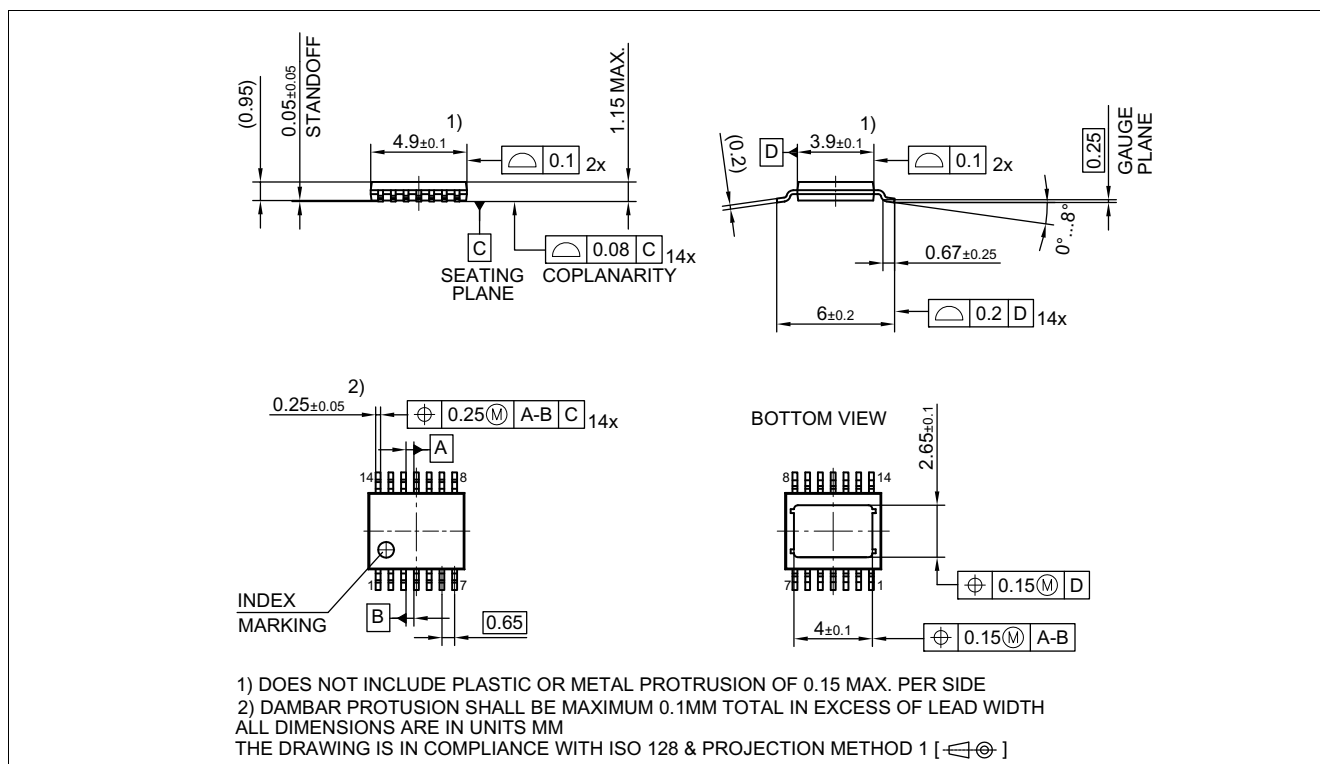
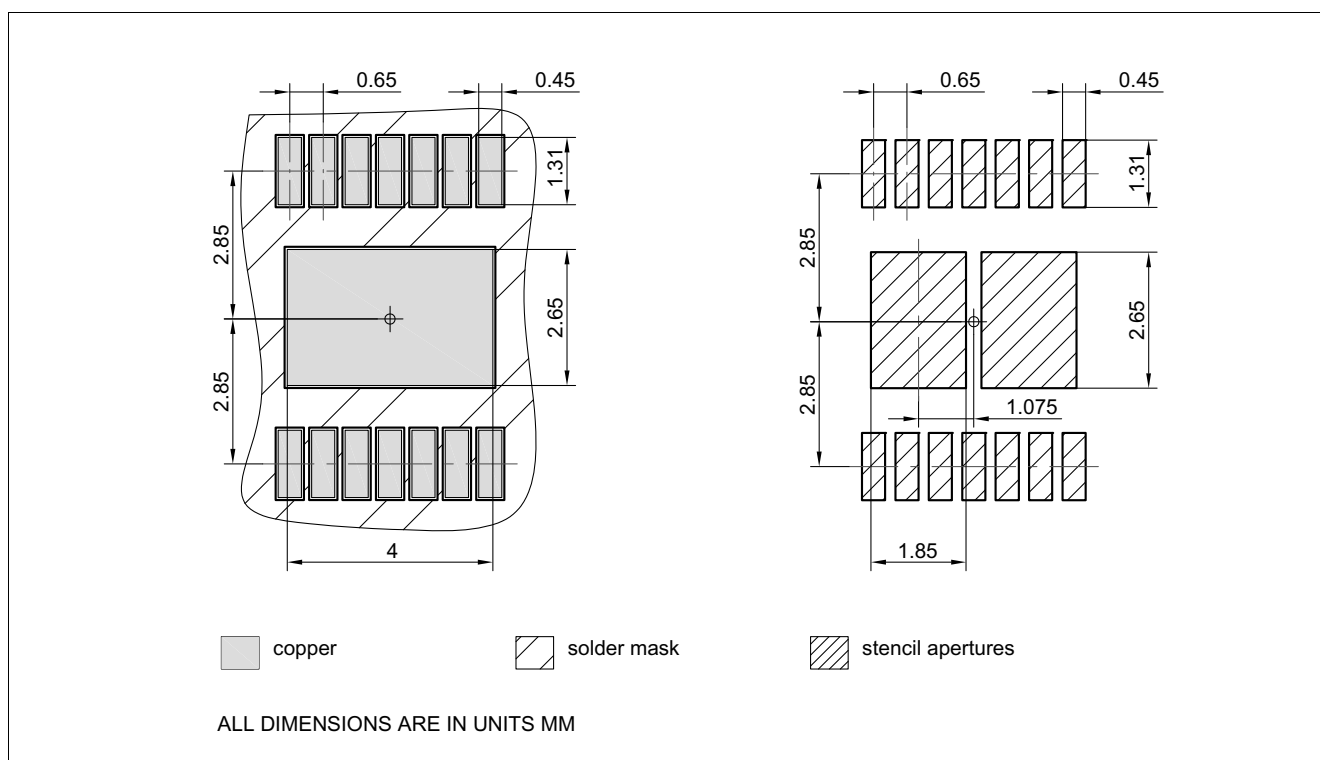

Figure 44 PG-TSDSO-14 (Thin (Slim) Dual Small Outline 14 pins) Package Outline
Figure 45 PG-TSDSO-14 (Thin (Slim) Dual Small Outline 14 pins) Package pads and stencil
1.03 , 2018-10-18	Chapter 9.3.1 updated (typo) Page 1: updated (Package PG-TSDSO-14-22 → Package PG-TSDSO-14) Figure 29 updated Figure 44 updated (PG-TSDSO-14-22 (Thin (Slim) Dual Small Outline 14 pins) Package Outline → PG-TSDSO-14 (Thin (Slim) Dual Small Outline 14 pins) Package Outline) Figure 45 updated (PG-TSDSO-14-22 (Thin (Slim) Dual Small Outline 14 pins) Package pads and stencil → PG-TSDSO-14 (Thin (Slim) Dual Small Outline 14 pins) Package pads and stencil) Table 1 updated ((Symbol: $I_{VS(SLEEP)}$ → $I_{VS(SLEEP)_{85}}$), (Parameter: Minimum Overvoltage protection ($T_J = 25\text{ °C}$) → Minimum Overvoltage protection ($T_J \geq 25\text{ °C}$)) P_9.6.0.6 updated (Note or Test Condition: removed unnecessary line-break) Chapter 7.4.1 updated chapter title (PROFET → PROFET™) Table 12 updated table title (PROFET → PROFET™) Chapter 8.6.1 updated chapter title (PROFET → PROFET™) Table 16 updated table title (PROFET → PROFET™) Chapter 9.5.1 updated chapter title (PROFET → PROFET™) Table 21 updated table title (PROFET → PROFET™) P_4.1.0.21, P_4.1.0.22, P_4.1.0.23, P_4.1.0.24 updated (footnote ESD standards) Table 1 updated ($R_{DS(ON)} \rightarrow R_{DS(ON)_{150}}$), ($V_{DS(CLAMP)} \rightarrow V_{DS(CLAMP)_{25}}$) Chapter 8.5.2 updated phrasing P_7.5.2.14 Table subheading "Switching Energy" added P_7.5.2.15 Table subheading "Switching Energy" added Chapter 6.4 added conditions Chapter 7.5 added conditions P_7.5.2.14 updated (Test condition: add "See Figure") P_7.5.2.15 updated (Test condition: add "See Figure") Chapter 8.7 added conditions Chapter 9.6 added conditions P_9.7.2.27 updated (Test condition: add "See Figure") P_9.7.2.29 updated (Test condition: add "See Figure") Chapter 7.3.1 typo corrected (link to Figure 19 added)